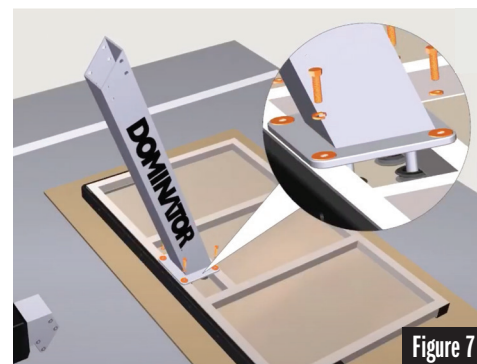

Figure 7
- Align the Extension Arm with the Backboard and secure the hardware in the same order. Hand tighten only. See Figure 7. Note: Use of impact driver may damage threads and is not recommended.